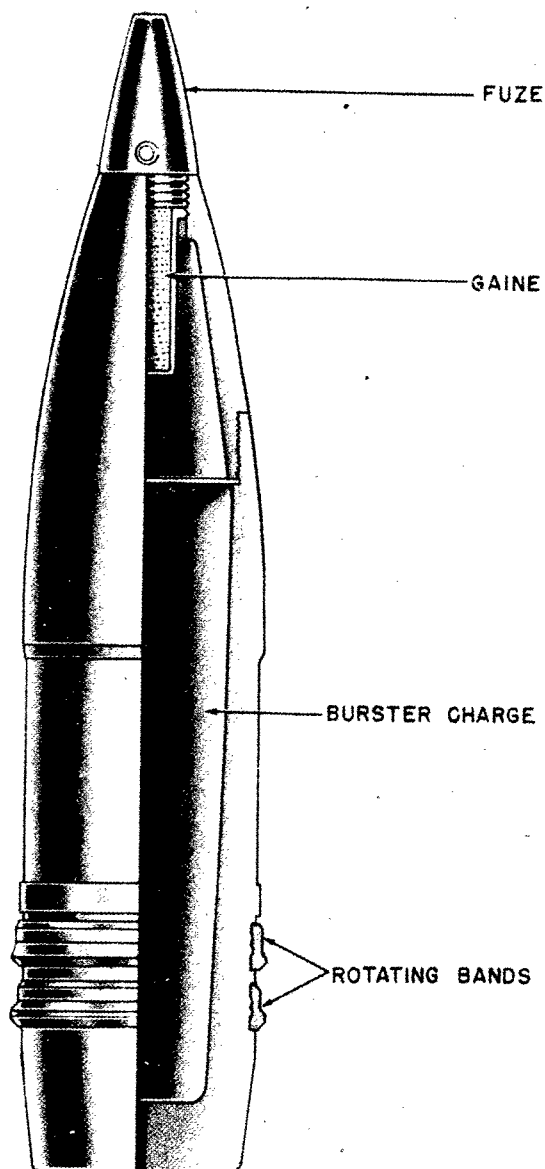

Figure 501—H. E. Projectile, Type 18, 150-mm, 15-cm K. Gr. 18
**GERMAN NOMENCLATURE**: 15-cm K. Gr. 18 (Kanone Granate 18). (See fig. 501.)
- 15-cm K. (E) (Kanone [Eisenbahn] Gun [Railway]).